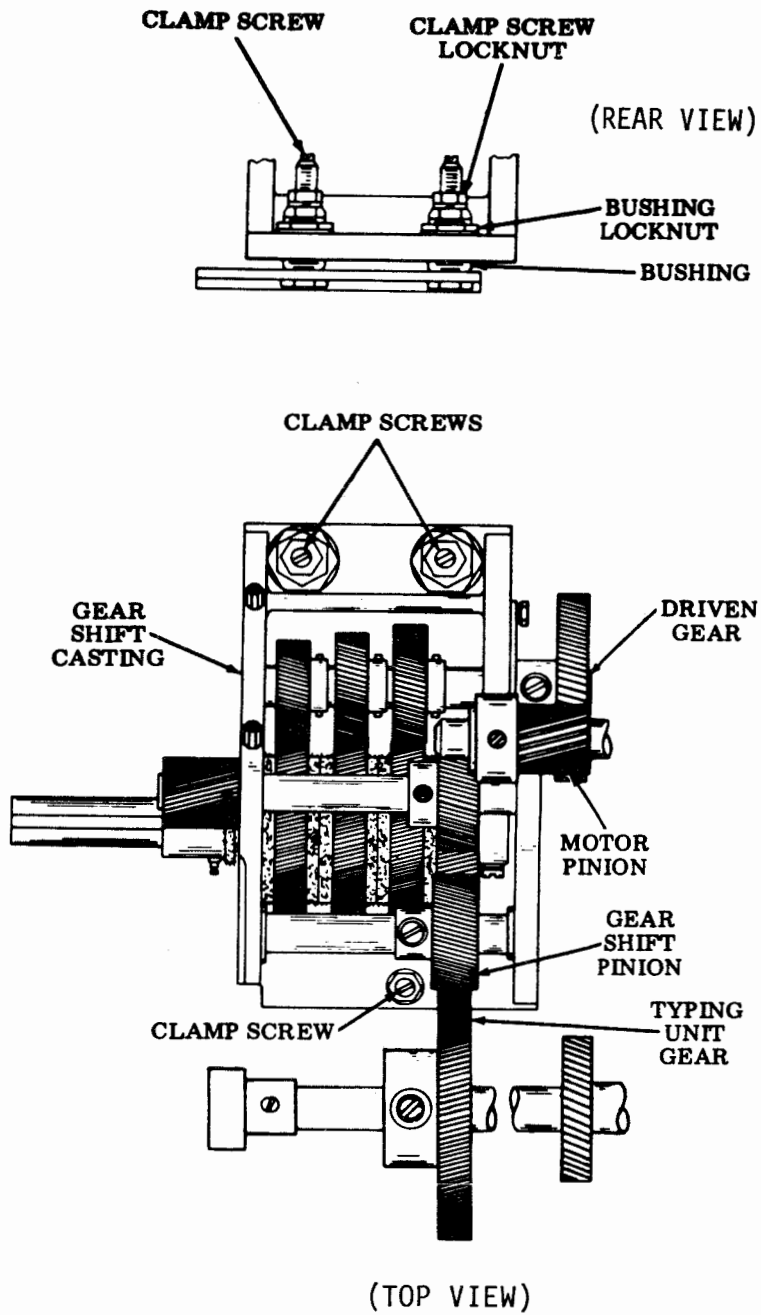

Figure 6-134. Typing Unit Gear Backlash and Motor Pinion Backlash
(a) Refer to figure 6-134.
- (a) Refer to figure 6-134.